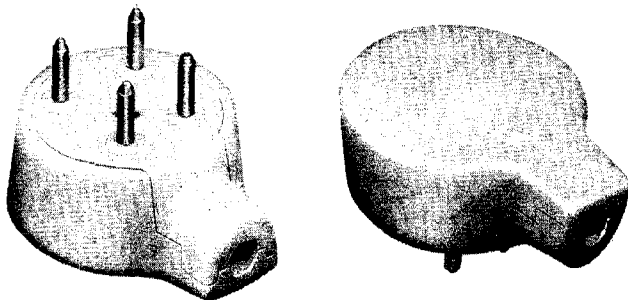
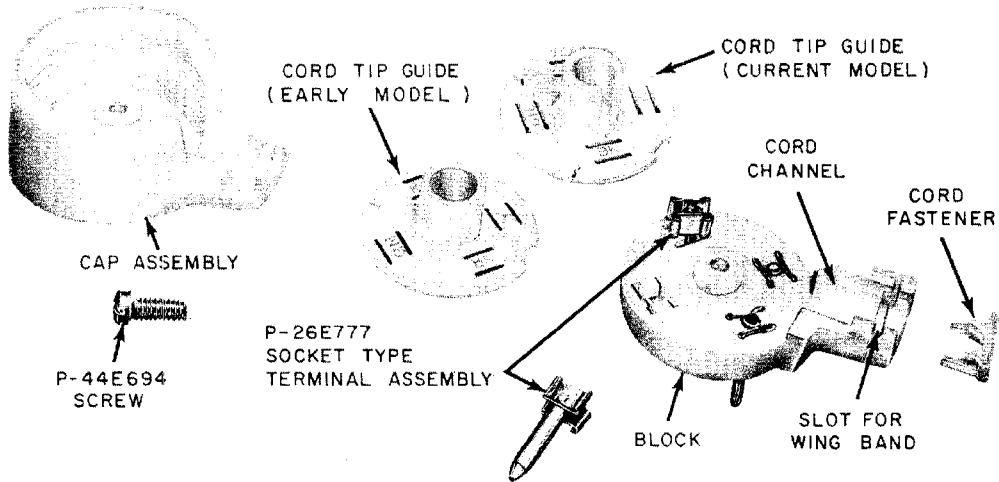

Fig. 3—505A Plug
Fig. 4—505A Plug Disassembled
2.04 The 505A plug (Fig. 3) is a 4-contact plug similar to the 504A plug; in addition, however, it has a cord fastener (Fig. 4) which holds the cord in place while spade tips are being connected. The cord fastener also anchors the mounting cord in the assembled plug.
2.05 The current model cord tips guide is shown in Fig. 4. It provides a cutout to permit the use of a cord equipped with a flat eyelet stay band.